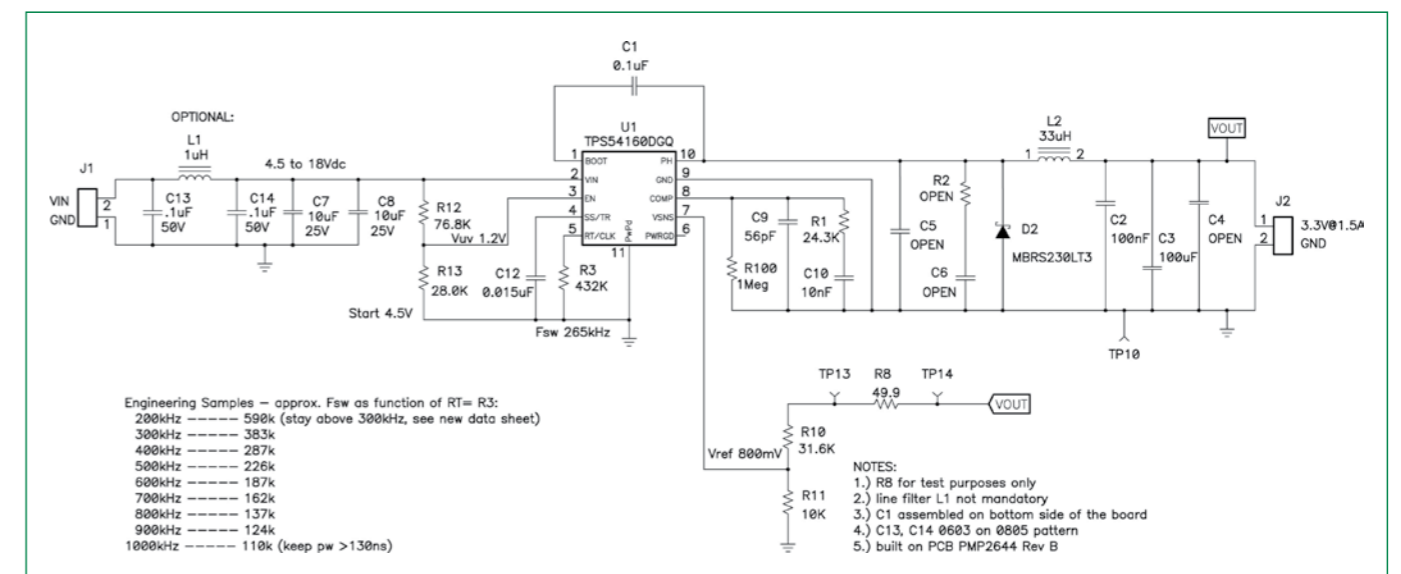

Figure 3. TPS54160 with noise filtering circuitry.
Figure 3 shows an example of a low pass π (PI) filter, a capacitor, inductor and capacitor combination, placed on the input side of the TPS54160 DC/DC converter to help reduce EMI. Inductors are useful for filtering lower-frequency noise, and ferrites are useful for filtering higher-frequency noise. On the input side of the DC/DC converter, the PI filter is implemented with components C13, L1, and C14 in conjunction with additional input capacitors C7 and C8. The switching frequency is easily modified by adjusting the value of R3. By setting the resistor R3 to 56K, the TPS54160 can operate at 1.8MHz and avoid noise sensitive frequency ranges in transportation applications. With consideration of the minimum controllable on-time, a switching frequency of 2.5MHz is possible.
by reducing the amplitude of a voltage spike as well as decreasing their rate of change (dV/dt). While some amount of power is dissipated in a typical RC snubber, it does serve the purpose of reducing switching loss in a MOSFET. In Figure 3, provisions have been made for R2 and C6 to allow the implementation of a snubber circuit if needed to reduce switching noise spikes. The techniques of snubber design can be viewed in SEM900 Topic 2 [3].
To help further reduce noise, a bootstrap resistor can be used. Although not shown in Figure 3, a small resistor of several Ohms placed in series with the bootstrap capacitor C1 will reduce the turn-on time of the internal MOSFET, thereby reducing the rising edge ringing of the SW node. However, the trade off is the increased switching loss of the MOSFET which slightly lowers the overall efficiency.